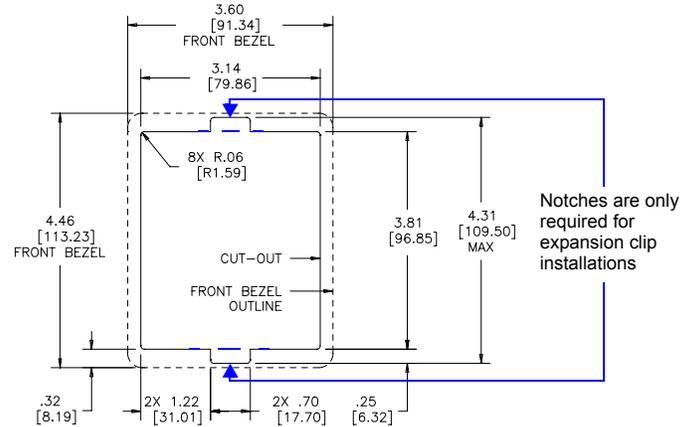

FIG. 2 Mio Modero DMS Cutout Installation Dimensions
1. Cut out the surface for the Mio Modero DMS conduit box using the dimensions shown in FIG. 2. A template is included to help you determine dimensions.